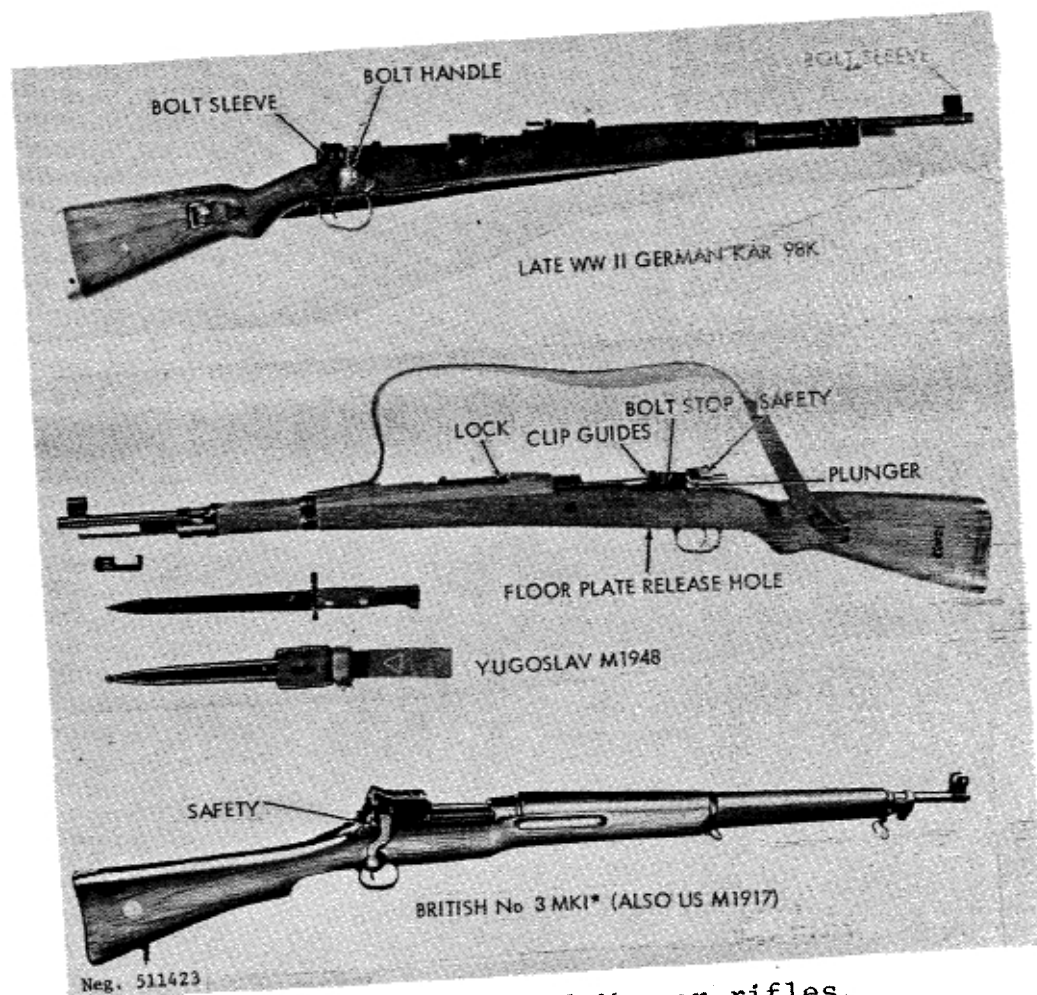
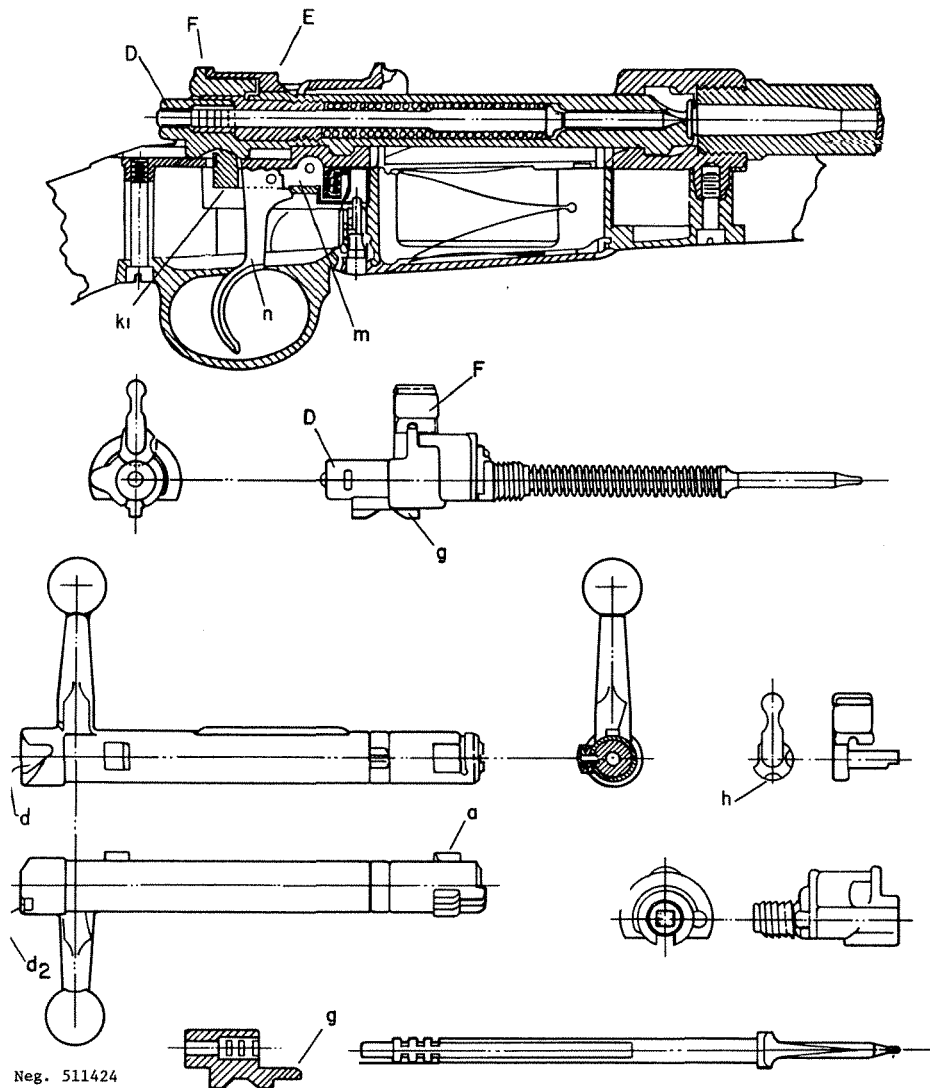

Figure 124. Typical Mauser rifles.
Figure 125. Mauser rifle section.
a. The Mauser Model 1898 rifle (fig 124) was the final refinement of a series of German rifles whose basic design began in 1871. The 1898 was developed just before the turn of the century, and after final improvements (in the early 1900's), its use spread throughout the world. There are few nations who did not use the 1898 or a rifle whose design was based on it. The prime producer of this rifle was Germany, but many other nations produced it under license. Belgium, Spain, Czechoslovakia, Poland, China, and Yugoslavia were the major non-German producers; however, the Mauser company exercised close supervision over production, and as a result, most of these rifle parts are interchangeable regardless of country of manufacture. This results in some current 1898's bearing markings of several countries. In addition to true 1898's, variants such as the US M1903 and 1917 rifles and the British No. 3 Mark 1* are based on the 1898 design. The final model of the original 1898 Mauser is the Yugoslav M1948 rifle (fig 124).
- a. Open the bolt by turning the bolt handle (fig 124) up as far as possible; then pull the bolt fully rearward.
b. Load the magazine by placing a charger clip of five cartridges into the clip guides (fig 124). Hold the thumb as close as possible to the charger clip and press the cartridges down into the magazine. If desired, remove the clip and save it for reuse; otherwise, the forward movement of the bolt will expel it. If clipped ammunition is not available, place individual cartridges on the magazine follower and press them down until they roll sideways under the feed lips. Repeat this action until five cartridges have been loaded into the magazine. To prevent damage to the extractor, always load by inserting the cartridges, even single ones, into the magazine; never load cartridges directly into the barrel.
d. If desired, make the rifle safe by swinging the safety (fig 124) to the right; this locks the firing pin and bolt. On US M1917 and British No. 3 Mark 1 (fig 124) rifles, rock the safety to the rear.
e. To fire the weapon, swing the safety to the left, or press it forward (US M17 type), set the sights for the desired range by pressing the locks (fig 124) and sliding the bar along the sight leaf until the top of the bar is aligned with the number on the leaf corresponding to the range in hundreds of meters. (Lift the leaf up before doing this on the M17 or No. 3 rifles.) Using a normal sight picture, aim and squeeze the trigger. The rifle will fire one shot.
a. When disassembling the weapons, unload (para 149g) but do not pull the trigger. On an M17 or No. 3, open the bolt, set the safety to the rear, and close the bolt as far as possible. Insert a coin between the firing pin nut and bolt sleeve. On all other rifles, leave the safety in the vertical position. Open the bolt and press the bolt stop (fig 124) outward. Hold the bolt stop out and pull the bolt from the rifle.
b. On the left side of the bolt sleeve (fig 124) there is a plunger (not present on M17 or No. 3 rifles); press it in. Unscrew the bolt sleeve and pull the firing mechanism from the bolt.
c. Using the point of a cartridge, press in on the floor plate catch through the hole (fig 124) in the floor plate.
b. As the bolt handle is turned upward, a cam in the rear of the bolt (d, fig 125) forces the firing pin nut and firing pin rearward, compressing the firing spring. The root of the handle also cams against the receiver to provide powerful leverage for initial extraction of the fired cartridge. The firing pin unit has a lug on its underside which overrides the sear when the handle is turned fully up.
d. The zigzag magazine spring has forced a fresh cartridge up, under the receiver feed lips. As the bolt is shoved forward, it pushes the cartridge out of the magazine, and the cartridge rides on the bolt face under the extractor. The locking lugs (a, fig 125) are resealed in their abutments in the receiver by rotating the bolt handle downward.
e. The trigger (n, fig 125), is pinned to the sear (m, fig 125), and has two humps on its top where it bears against the bottom of the receiver. When the trigger is pressed, the front hump (closest to the pin) acts as a lever to move the sear down. At this stage, the trigger pull has been very light, but as the second hump, at the rear of the trigger contacts the receiver, a definite stop is felt and increased trigger pressure is necessary to completely disengage the sear from the lug on the firing pin nut. When these disengage, the firing spring drives the firing pin forward and fires the cartridge.
f. This rifle has two safety features: the manual safety and an automatic safety. The manual safety (fig 124) is operated by swinging it to the left; this interposes a solid portion of the safety (f, fig 125) in front of the firing pin nut and cams the nut slightly rearward, off the sear. At the same time a section of the safety shaft rotates into a fore-and-aft cut (d2, fig 125) in the rear of the bolt; this locks the bolt closed. The automatic safety is the cocking cam (g and d, fig 125) in the bolt; if the bolt is not completely locked, the cam on the firing pin nut will force the bolt closed by engaging the cam in the bolt. These cams prevent the firing pin from going completely home unless the bolt is rotated to a fully locked position.